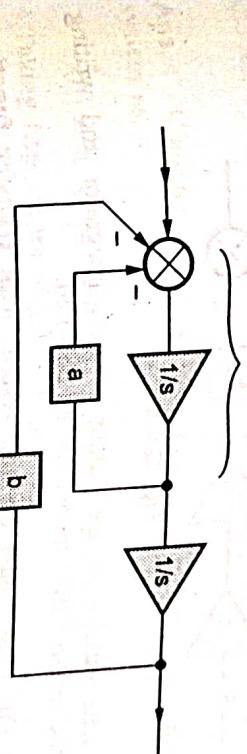

Fig. Q.9.2
• If this group is added in the forward path of another such loop block diagram as shown in the Fig. Q.9.2.